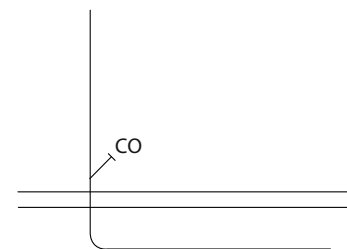

Figure 5-7
- 6) You can install a cleanout in the base of an exposed or concealed vertical stack not more than 4 feet above the finished floor, as shown in Figure 5-7. If you can't extend the cleanout to an accessible outside location, use a cleanout tee in the vertical stack. The cleanout plug must be accessible. If it's concealed, the cleanout must have a removable cover plate or access door to permit rodding. The raised head on the cleanout plug may be tapped to accept the long screw that holds it in place (Figure 5-8).